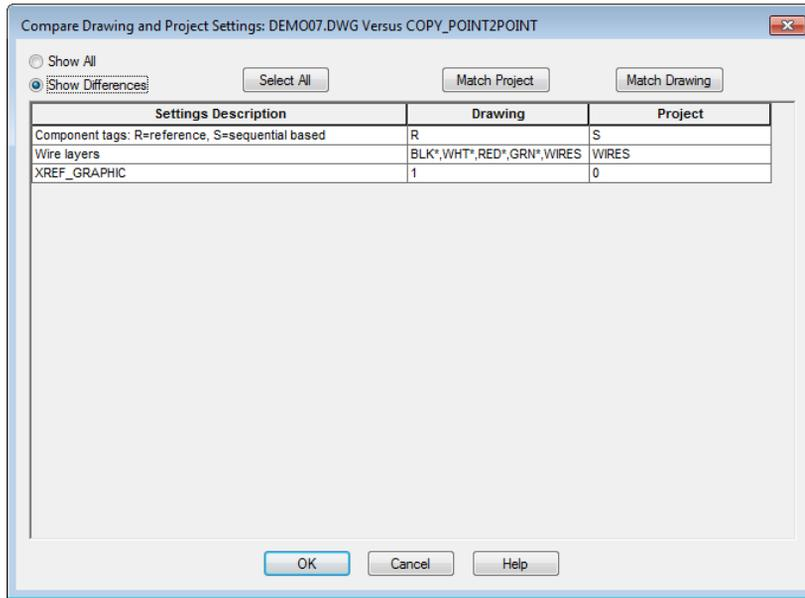

Figure 2-74 The Compare Drawing and Project Settings: DEMO007.DWG Versus COPY_POINT2POINT dialog box
2. Select the **DEMO007.DWG** from the **Copy_Point2Point** project in the **Projects** rollout of the **PROJECT MANAGER** and right-click; a shortcut menu is displayed. Choose **Properties** from the shortcut menu; a cascading menu is displayed. Choose **Settings Compare** from the cascading menu; the **Compare Drawing and Project Settings: DEMO007.DWG Versus COPY_POINT2POINT** dialog box is displayed, as shown in Figure 2-74.